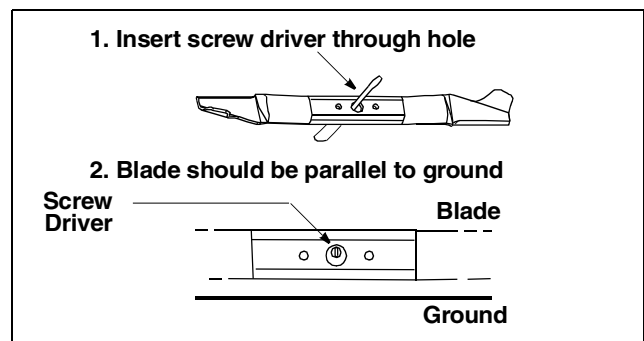

Figure 18
- The blade can be tested by balancing it on a round shaft screwdriver. See Figure 18. Remove metal from the heavy side until it balances evenly. It is recommended that the blade always be removed from the adapter for the best test of balance.